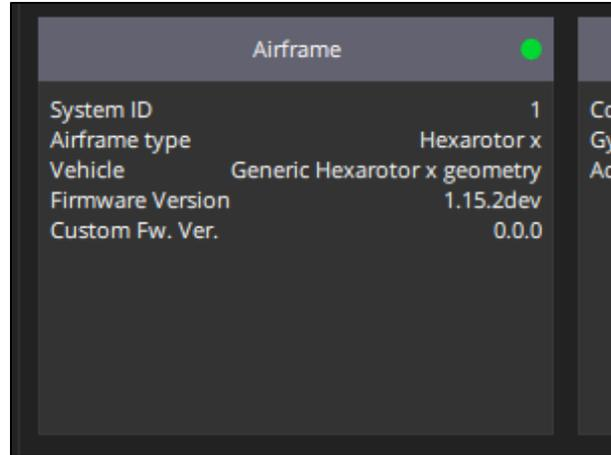

Figure 159 Verifying firmware version
5. In the **Summary** tab, verify that the **Airframe: Firmware Version** value matches the expected version as shown in **Figure 159**.